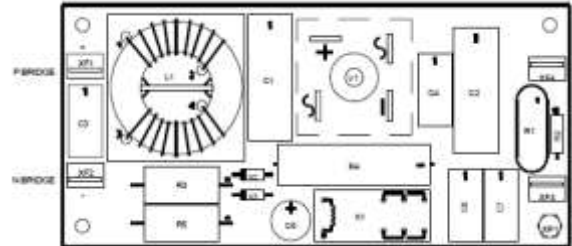

Fig.2
1. Electronic circuit (Fig.2) check the presence of short circuits on the rectifier bridge and the correct value of the power resistance (Fig. 2).